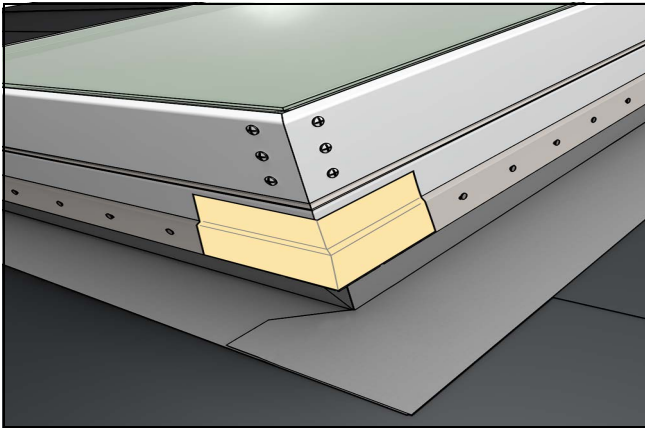

Figure 44
14. Apply flexible adhesive flashing tape to each corner by mounting flange, stay below the weather accessory kerf. See Figure 44. Flexible flashing should extend from corner at least 4" in each direction.